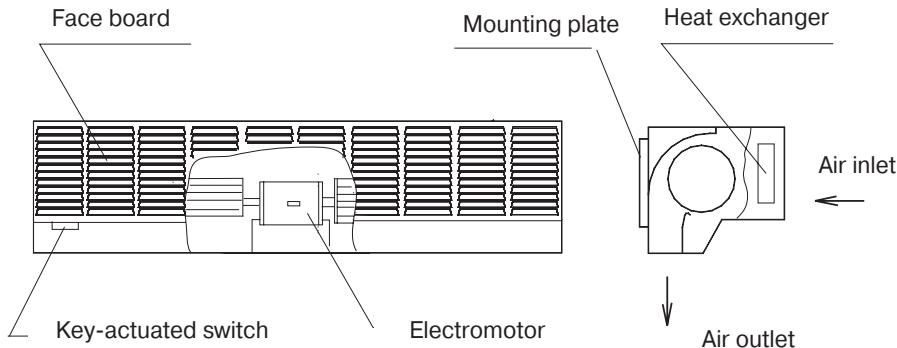

Figure 1. Air Curtain assembly.
4.1 The wind wheel with electromotor and ribbed pipe water heat exchanger are installed in metal cabinet of Air Curtain (Fig.1).